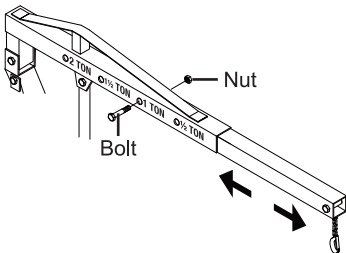

Figure 12
2. Adjust the Boom Extension so the hole furthest from the hook-end aligns with the chosen hole on the Boom. Secure into place by inserting the Bolt through all aligned holes and tightening in place with the Nut. See Figure 12.